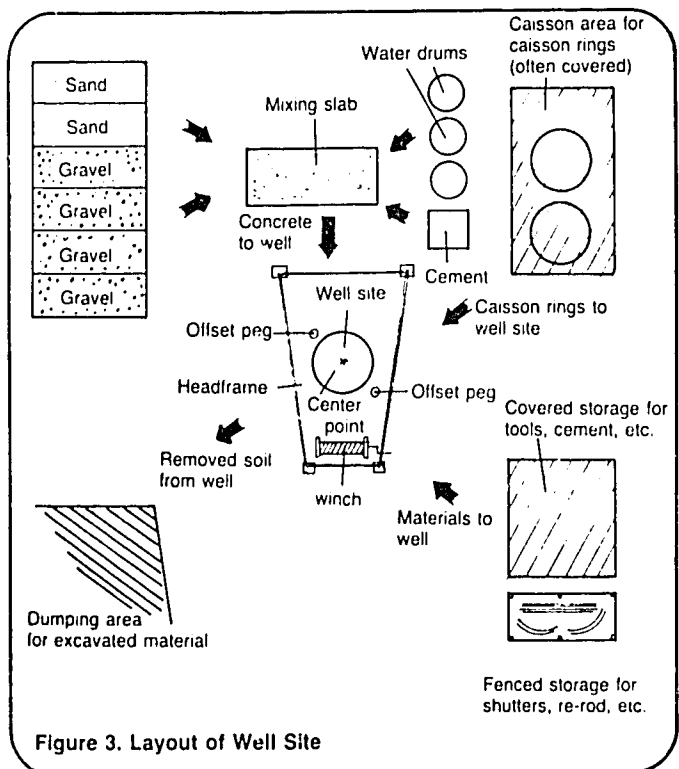

Figure 3. Layout of Well Site
2. Assemble all laborers, materials, and tools needed to begin construction and arrange the materials in a fashion similar to Figure 3. A proper layout will save time and effort during later construction steps. A shelter should be built to protect tools and some materials from the weather, theft, or being misplaced.